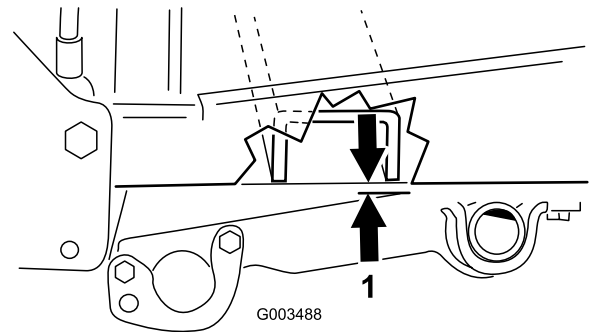

Figure 17
2. Measure the distance between the traction unit frame and the pivot tube as shown in Figure 17. (As shown from right side of machine)